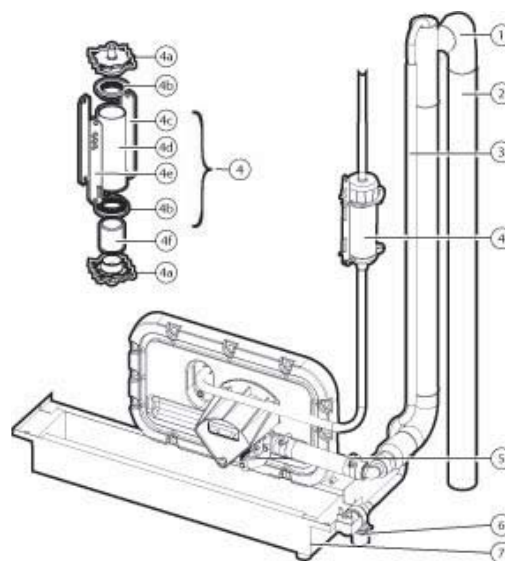

Fig. 17.e
• Fill electrovalve (Fig. 17.d, part. no. 3 - Fig. 17.e, part. no. 6)
• Supply and drain manifold (Fig. 17.d, part. no. 6)
• Drain electrovalve / drain pump (Fig. 17.d, part. no. 5 - Fig. 17.e, part. no.5)
• Fill tank (Fig. 17.d, part. no. 1)